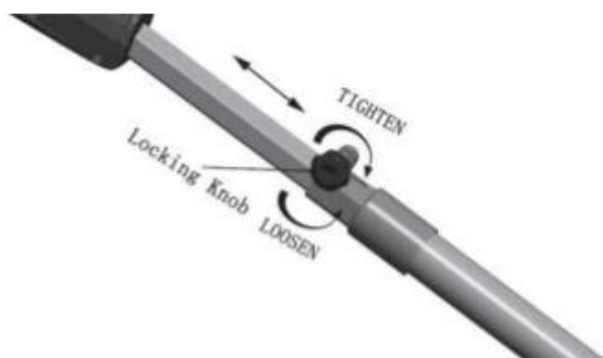

Fig.8
1. To extend the handle, loosen the locking knob (see Fig. 8). The handle will slide freely.
3. To lock handle in position, tighten the locking knob (see Fig. 8)